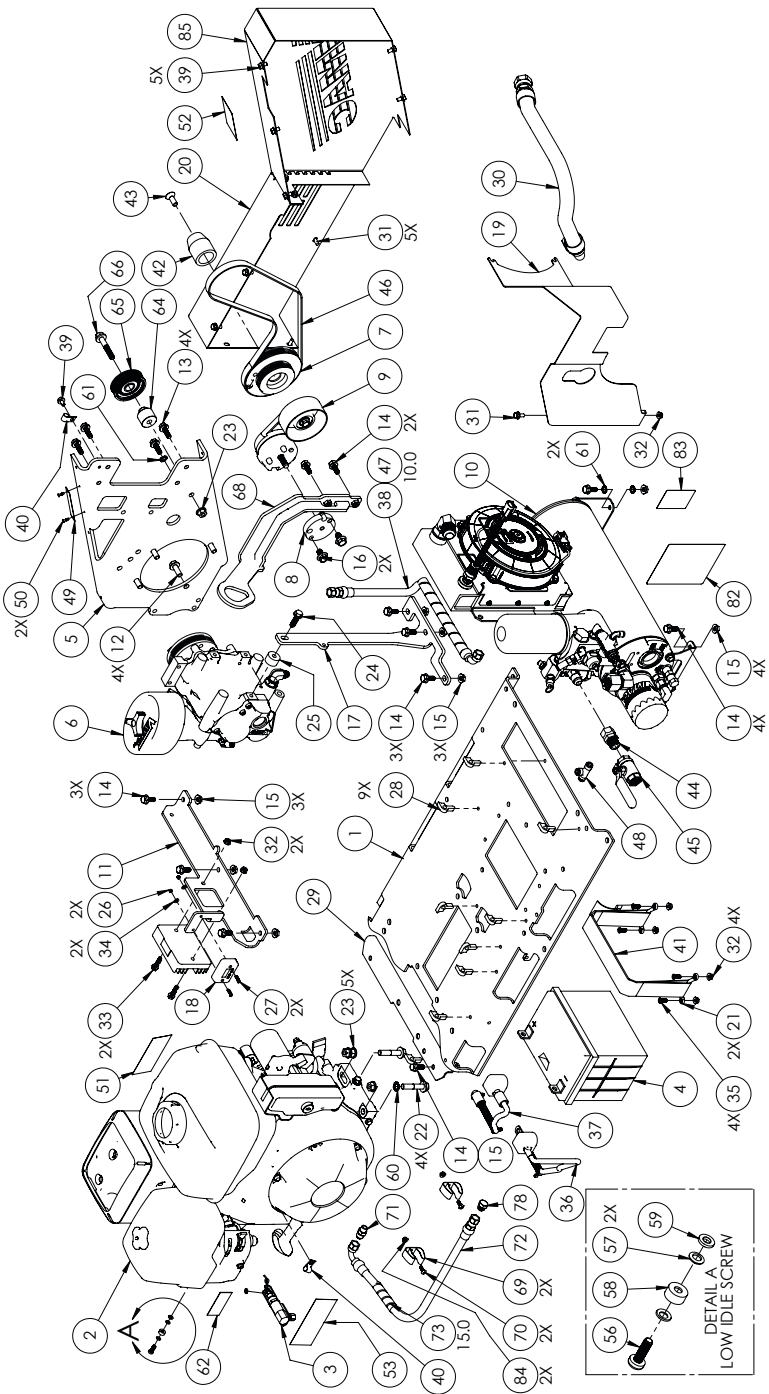
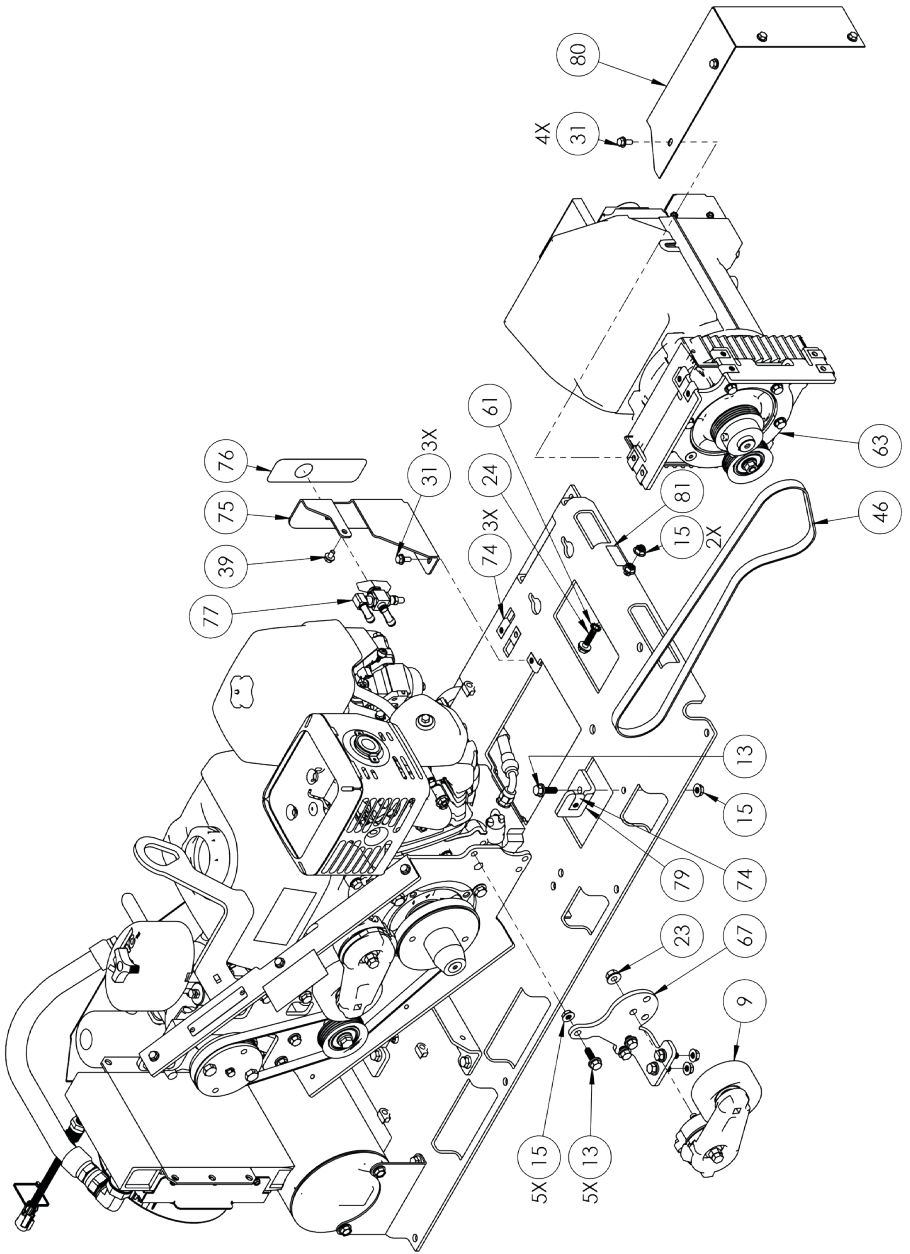

Figure 86 — Kit pack list
Figure 87 — Kit pack list
**Items 54 – 55, 86 – 97 not shown in Figure 86 on page 110 or Figure 87 on page 111.*